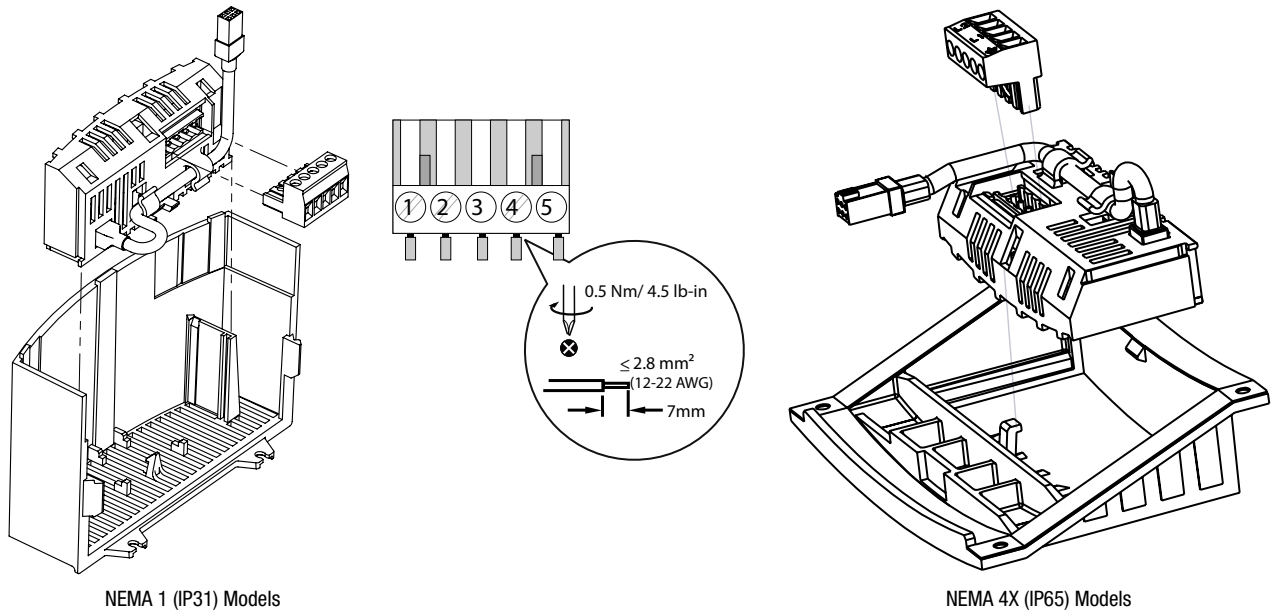

Figure 2: Installing the RS-485 Communications Module
2. Insert the RS-485 option module in the terminal cover and securely “click” into position as illustrated in Figure 2.